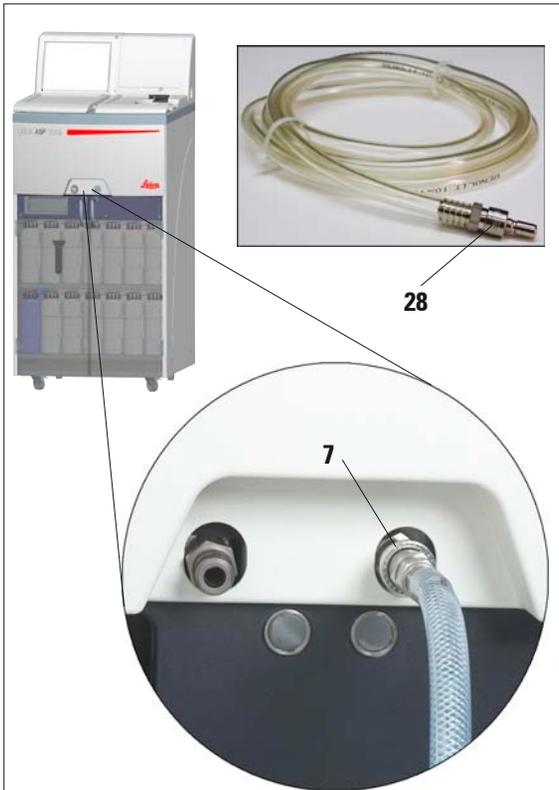

Fig. 6
- Connect the supplied remote fill/drain hose to the remote drain connection on the front of the instrument (refer Fig. 6).
When inserting the hose into the fill/drain connection (item 7 in Fig. 6) the connecting device (28) of the hose must lock with an audible click.